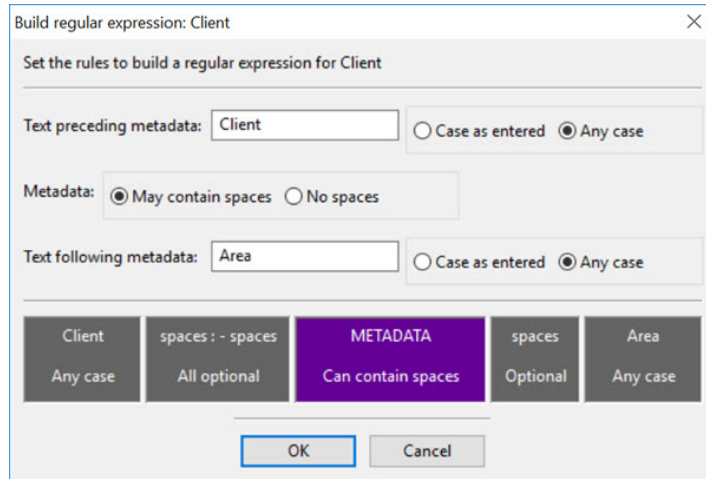

Figure 3-13 Build regular expression input box
2. Type "Client" in the first name field then click on . A *Build regular expression:Client* box will open. Referring to the textual header opened and displayed in the right hand panel it is noted that the text preceding the required metadata is CLIENT and the text following metadata is AREA. Enter this information in the relevant boxes (Figure 3-13) and click **OK**